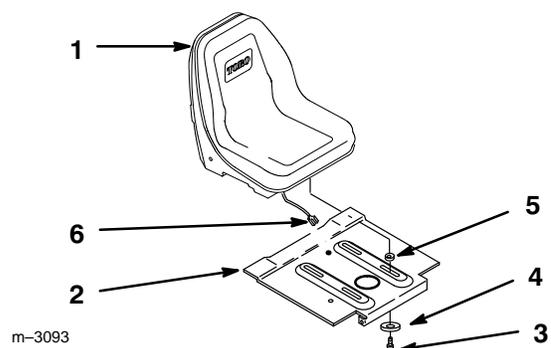

Figure 2
1. Tip seat pan up, place stop wire through hole and align seat with adjustment slots (Fig. 2).
2. Secure with (4) 5/16 x 3/4" (19 mm) bolts, 5/16" washers and 5/16" spacers (Fig. 2).
4. Route stop switch wire through hole and press connector into wire harness connector (Fig. 2).